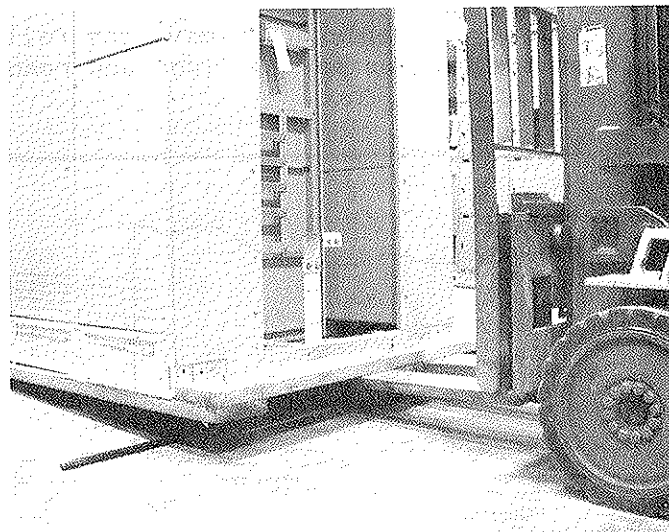

Fig. II-5. Place rollers under skid.
4. Position one roller under the skids close to the raised end of the skid. Carefully lower the skid until it rests on the roller. See Fig. II-5.